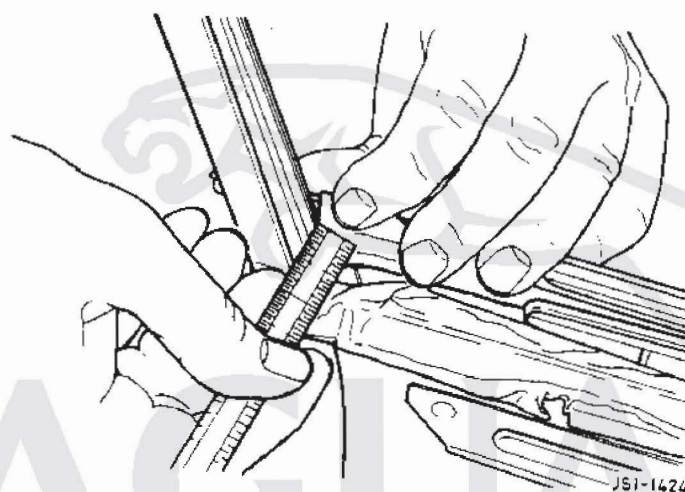
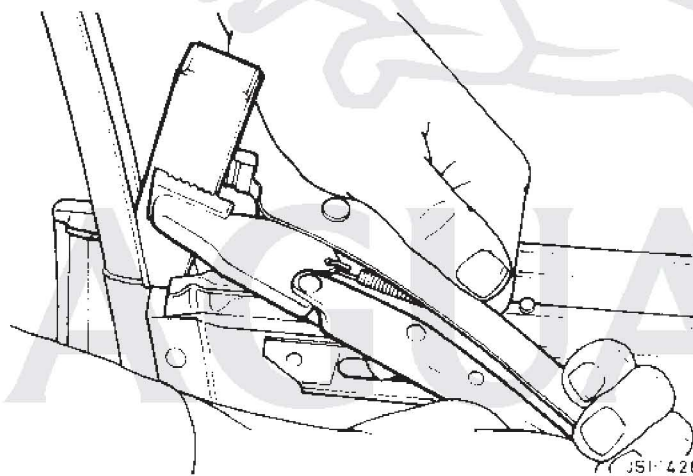

FIG 4
FIG 6
7. Refer to Fig 4; using an engineer's steel rule, measure the external width of the frame as shown. The correct dimension should be 19.5 to 20.5 mm.
10. Using a pair of pipe grips secured to the drift, twist the drift in the direction shown in Fig 6. This action should be repeated until a dimension of approximately 21 mm is achieved at the position shown in Fig 4. This 0.5 mm increase above the upper limit of 20.5 mm, will compensate for any "spring back" of the channel due to integral latent stresses.